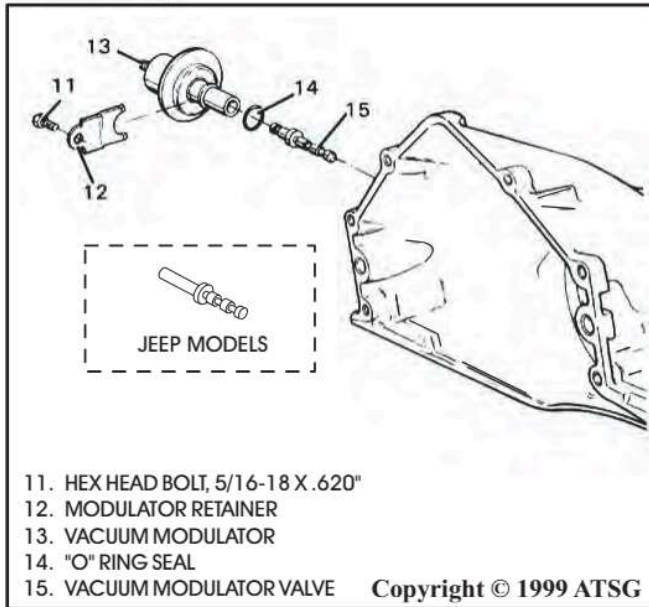

Figure 128
70. Lubricate modulator valve (15) with fluid and install modulator valve into transmission case as shown in Figure 128.
Note: Jeep models use a modulator valve that has a longer stem on the modulator side, as shown in Figure 128, and requires modulator with the bellows.
71. Install a new vacuum modulator with a new "O" ring into case, as shown in Figure 128.